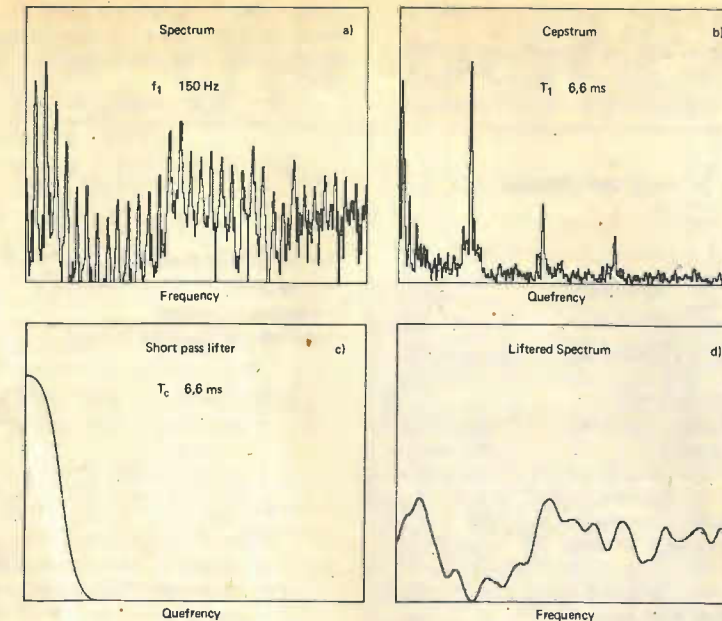

Fig. 15. Cepstrum liftering
Fig. 15. Typical servo-amplifier input stage. In velocity mode, the shaper and velocity transducer drive the error amplifier. In track-following mode, position error is the only input.
The input of the servo amplifier normally has a number of analogue switches which select the appropriate signals according to the mode of the servo. As the output of the position transducer is a triangle or sine function, the sense of the position feedback loop has to be inverted on odd numbered cylinders, to allow detenting on the negative slope. In some cases a different velocity transducer is used when the heads are being retracted from the pack. Figure 15 shows a typical servo-amplifier input-selection circuit.
It is also possible by editing in the cepstrum to remove one effect completely, for example the voice, and thus simplify the tracking of the formants. Fig. 14 from ref. 11 shows a typical situation, a three-dimensional representation of the section "ea" from the word "Montreal". The picture is confused but by short-pass liftering each of the spectra to remove the voice components, as shown in Figs 15 and 16, only the formants are left and the picture becomes much clearer.